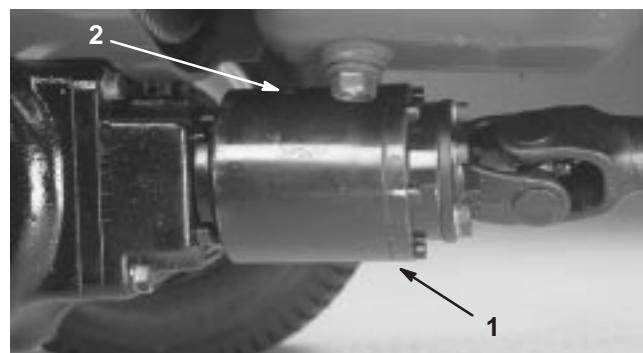

Figure 28
2. Rotate clutch (Fig. 28) so check plug (shown in 12 o'clock position) is positioned at 4 o'clock.